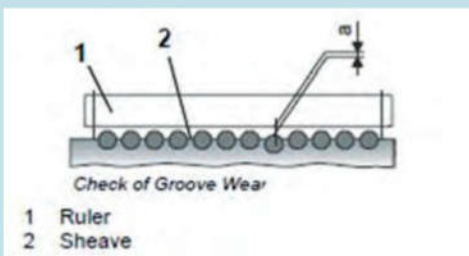

Figure 3: A ruler or other straightedge can be used to check rope depths within sheave grooves.
- ♦ Reviewing the ropes to ensure none sits lower in the sheave groove. If one does, it could indicate either improper rope tensioning or damage to a sheave groove (Figure 3).